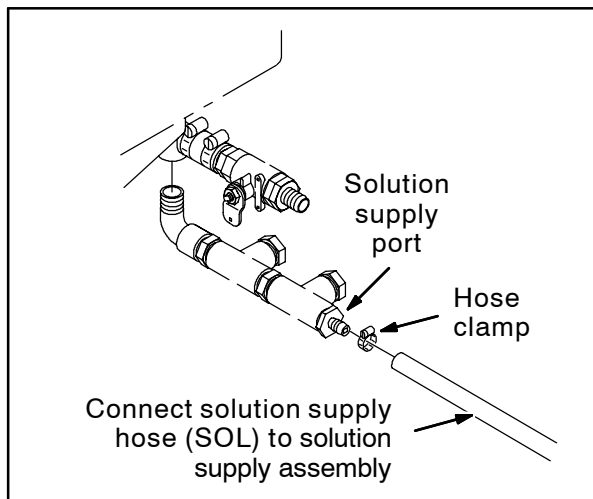

FIG. 6
8. Route the hose labeled SOL to the solution supply assembly and use a hose clamp to secure the hose to the solution supply port. Refer to Fig. 6.